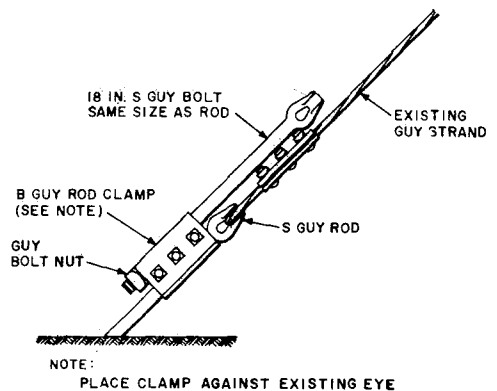

Fig. 2—Adding Additional Eye on S Guy Rod
- 3.01** Where spare guying capacity exists in the anchor and guy rod, an additional eye may be added to the guy rod. Clamp an S guy bolt to the rod with a B guy rod clamp or B guy clamp. The addition of an eye on an S guy rod is illustrated in Fig. 2.